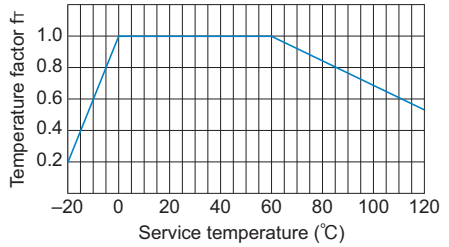

Fig.2 Temperature Factor
If the temperature of the screw nut exceeds the normal temperature range, the seizure resistance of the nut and the strength of the material will decrease. Therefore, it is necessary to multiply the dynamic permissible thrust (F) by the corresponding temperature factor indicated in Fig.2.
- f_r : Temperature factor (see Fig.2)
- F : Dynamic permissible thrust (N)
- P_F : Axial load (N)